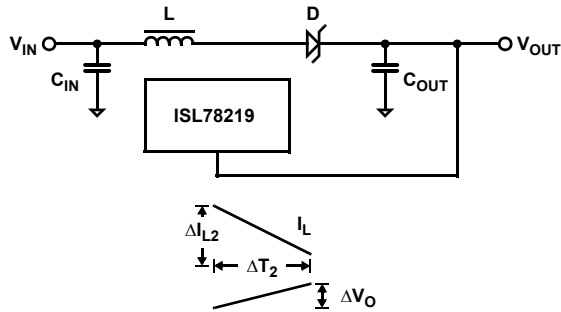

Figure 16. Boost Converter - Cycle 2, Power Switch Open
During the second cycle, the integrated power FET turns off and the Schottky diode is forward biased (see Figure 16 on page 9). The energy stored in the inductor is supplied to the output. This energy is used to charge the output capacitor and supply output current. In this cycle switching node (LX) is held to $V_{OUT} + \text{Schottky diode drop}$. Voltage drop across the inductor is $V_{IN} - V_{OUT}$ (ignoring diode drop across Schottky diode). The change in inductor current during the second cycle is shown in Equation 2: